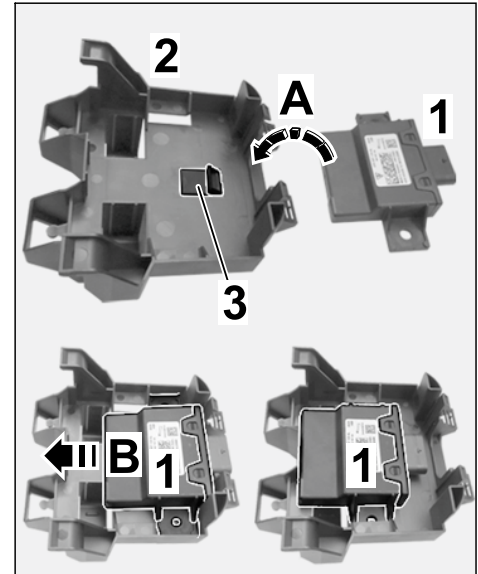

Figure 13
2.1.2 Insert the engine noise control unit at the underside in the control unit holder (⇒ *Figure 13-A-*).
2.1.3 Push the engine noise control unit in the holder to the opposite side of the plug connection (⇒ *Figure 13-B-*), until the control unit is engaged in the holder.